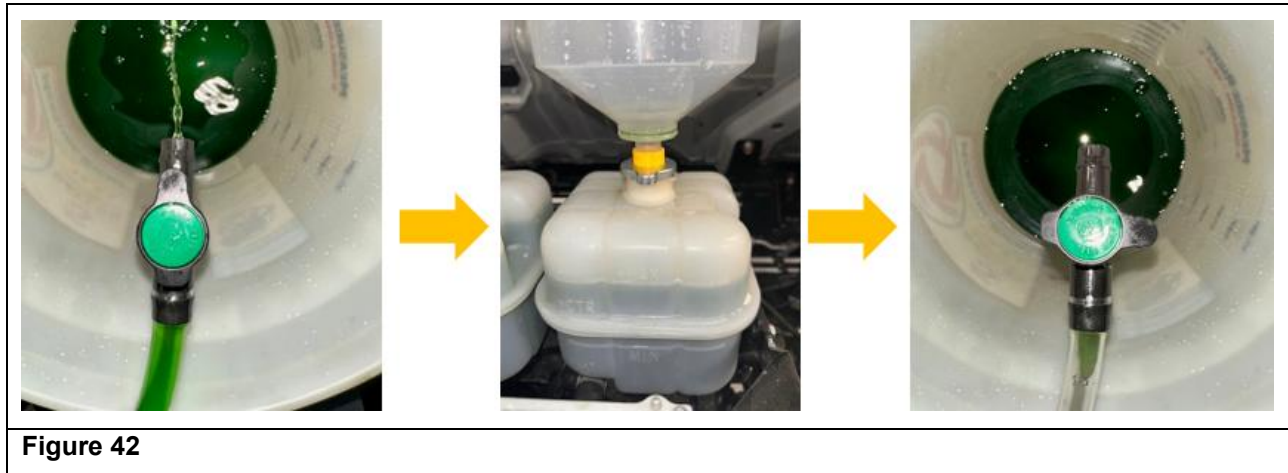

Figure 42
83. When only one (1) gallon of coolant remains to be added, be ready to shut off the valve off at the end of the vinyl tube. Turn the valve off as soon as the last gallon of coolant is poured into the reservoir
84. While monitoring the coolant level in the reservoir, open the valve and allow the coolant to drain until the coolant level reaches the “MAX” line and turn the valve off. (See Figure 42.)